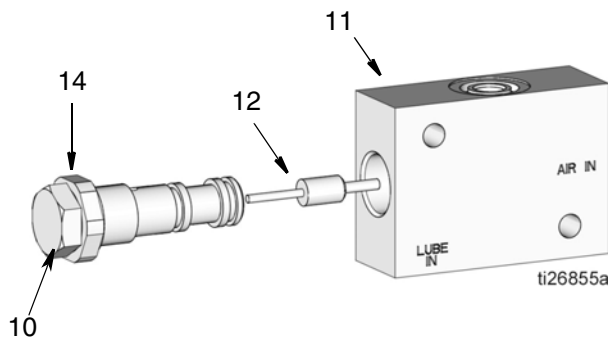

FIG. 13
- Apply a thin layer of oil to the spray valve piston (12). Install spray valve piston in adjustment sleeve (10). **Refer to FIG. 13 to verify the piston is correctly oriented in the adjustment sleeve.**
- Install assembly in valve body (11) (FIG. 13).